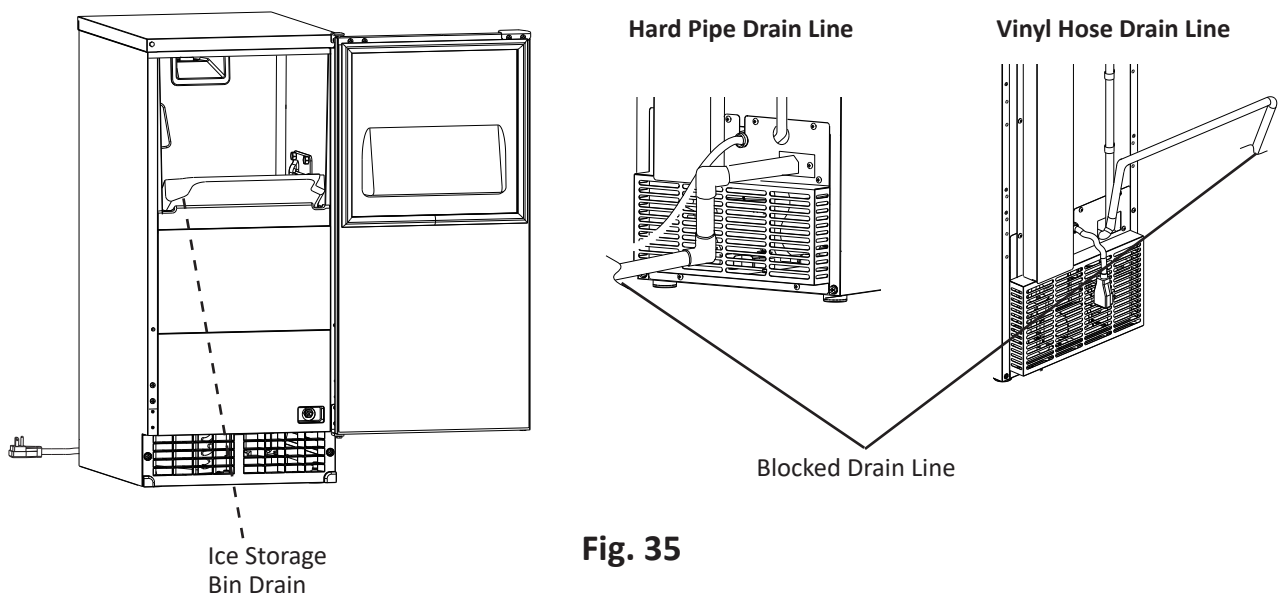

Fig. 35
- 13) Check the drain pump back-up safety switch: Pour another 24 to 30 oz. (710 to 890 ml) of water into the icemaker's ice storage bin, then completely restrict/block the appliance hard pipe drain line or the appliance vinyl tubing drain line while the drain pump is operating. See Fig. 35. Pour more water into the icemaker's ice storage bin until the icemaker turns off. The drain pump will continue to operate. Check for leaks.